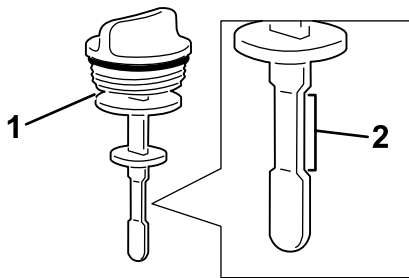

Figure 95
4. Remove the dipstick from the filler neck and check the fluid level (Figure 95).